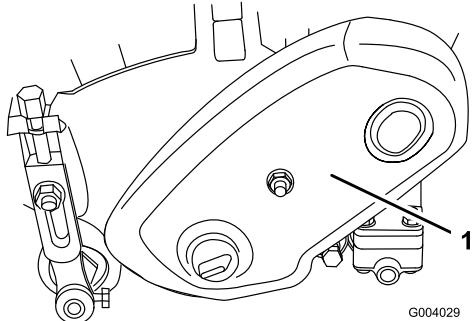

Figure 33
1. Remove the belt cover mounting fasteners and belt cover to expose belt (Figure 33).